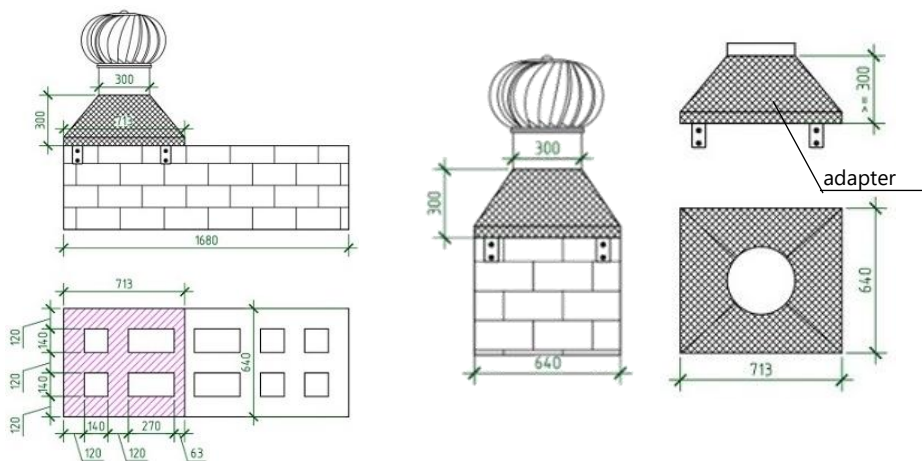

Figure 4. Example of deflector installation on a ventilation duct.
3.2 Examples of deflector installation are shown in Figures 4–5: